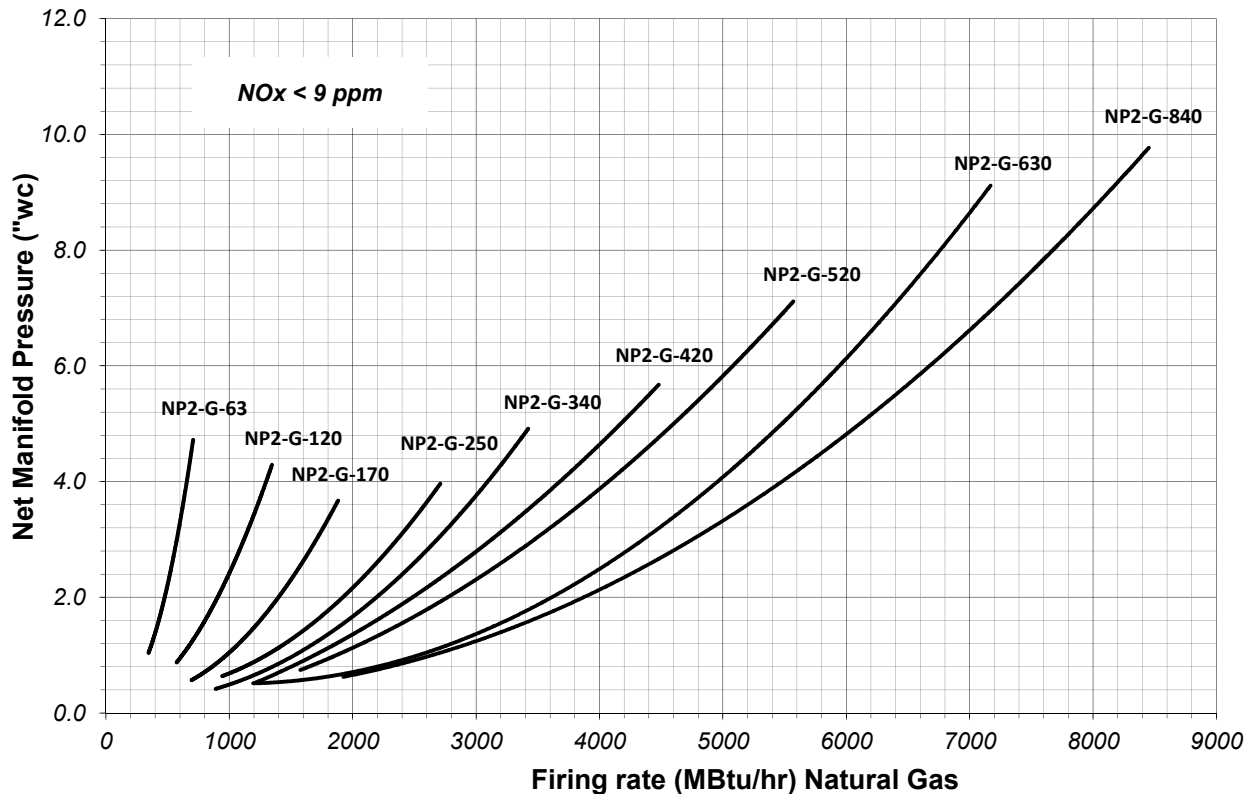

Figure 5: Approximate Manifold Pressures (at orifice tee)
11. All fuel/air adjustments should be made to achieve required input rate, satisfactory combustion test values, flame stability and appearance. Before start up, determine the burner's manifold pressure. See the appropriate chart for your model burner listed in **Figure 5** (Approximate Manifold Pressure). The pressures shown are the approximate net pressure; therefore the heat exchanger's over-fire pressure must be added to these pressures to determine the total manifold pressure for your installation.
1. Prior to burner start up – contact the local gas company to determine if any correction factors have to be applied to their indicated meter flow rates. This information is important as relates to achieving specific heat exchanger BTU/HR inputs. Refer to Figure 5 (Approximate Manifold Pressures) and the burner rating plate for additional firing rate information.
6. Install required system measuring devices. **See item 12, page 10.** (Burner Start up and test equipment)
Excessive gas pressure and insufficient air are the most common causes of pilot ignition failure. Gas pressure should be read at the test tee on the pilot gas supply pipe as shown in Figure 5 with a manometer or 0 – 10" w.c. gauge. Look for stability of gas pressures at all times. For dependable pilot ignition, always use an air setting to provide the MOST air and LOWEST pilot gas pressure settings allowable for good pilot signal at all times.